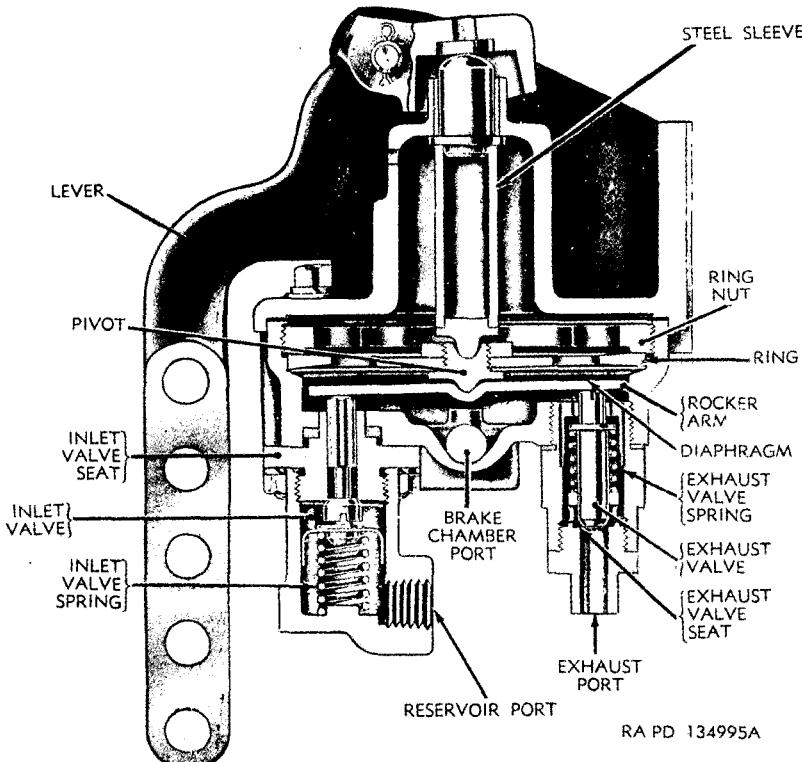

Figure 74. Sectional view of special B-4-B brake valve.
(2) *Special B-4-B brake valves* (fig. 74). The special B-4-B brake valves (fig. 74) are exactly the same in outward appearance as the standard type. The only difference is that the special type has a steel sleeve to depress the diaphragm instead of a pressure-regulating spring assembly. The use of a sleeve instead of a spring is desirable because this type of brake valve is only intended to be operated by a hand grip control such as is used on the steering levers of some track-laying tractors.
(2) *Special valves* (fig. 74). Operation of the special type brake valve is very similar to that of the standard type, except this type of valve is operated by a hand grip control. It has a steel sleeve above the diaphragm instead of a pressure-regulating spring assembly. Reaction of the valve mechanism is totally controlled and cushioned by the driver's hand grip rather than by the pressure-regulating spring.